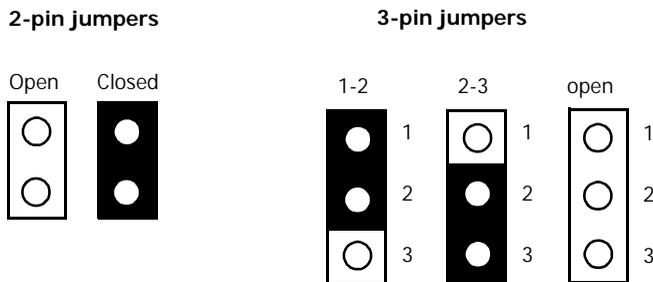

Figure 2-1. Examples of 2-pin and 3-pin jumpers
In general, the jumpers are used to select options for certain features (Figure 2-1). Some of the jumpers are user-configurable, allowing system enhancement. Other jumpers are used for testing purposes only and should not be altered. To select any option, insert the jumper cap (Short) or remove (NC) the jumper cap from the jumper pins according to the following instructions. (Here NC stands for "Not Connected".)